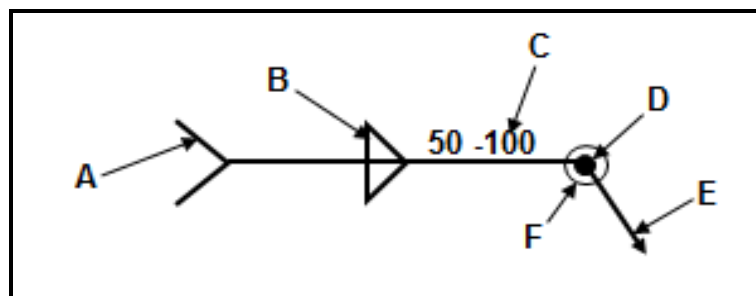

FIGURE 5.5
5.5 FIGURE 5.5 below shows a welding symbol. Label parts **A–F** on the welding symbol.